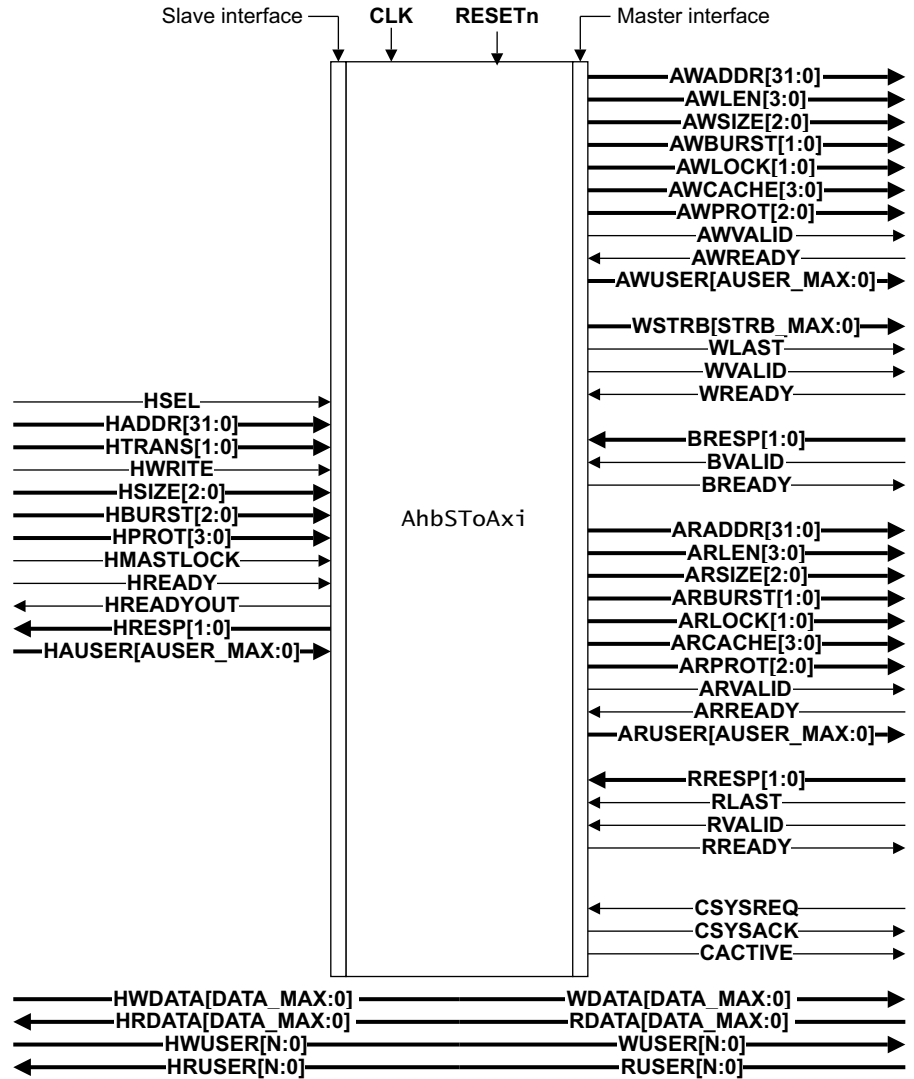

Figure 1-7 AHB slave bus to AXI bridge signal connections
- Figure 1-7 on page 1-10 shows the AHB slave bus to AXI bridge signal connections.